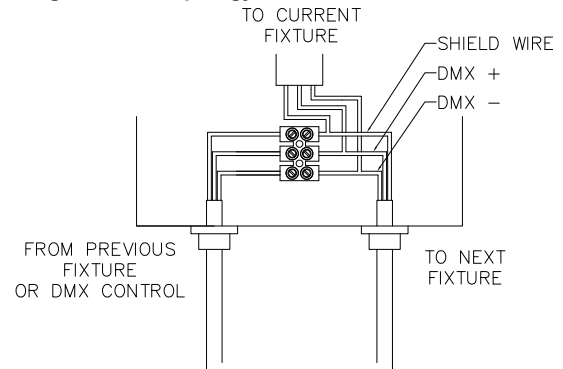

Figure 2: Mounting Detail
5. Mount floodlight canopy directly to finished surface using hardware (by others) Figure 2.
6. Replace canopy cover and tighten (4) M4 hex screws to secure.